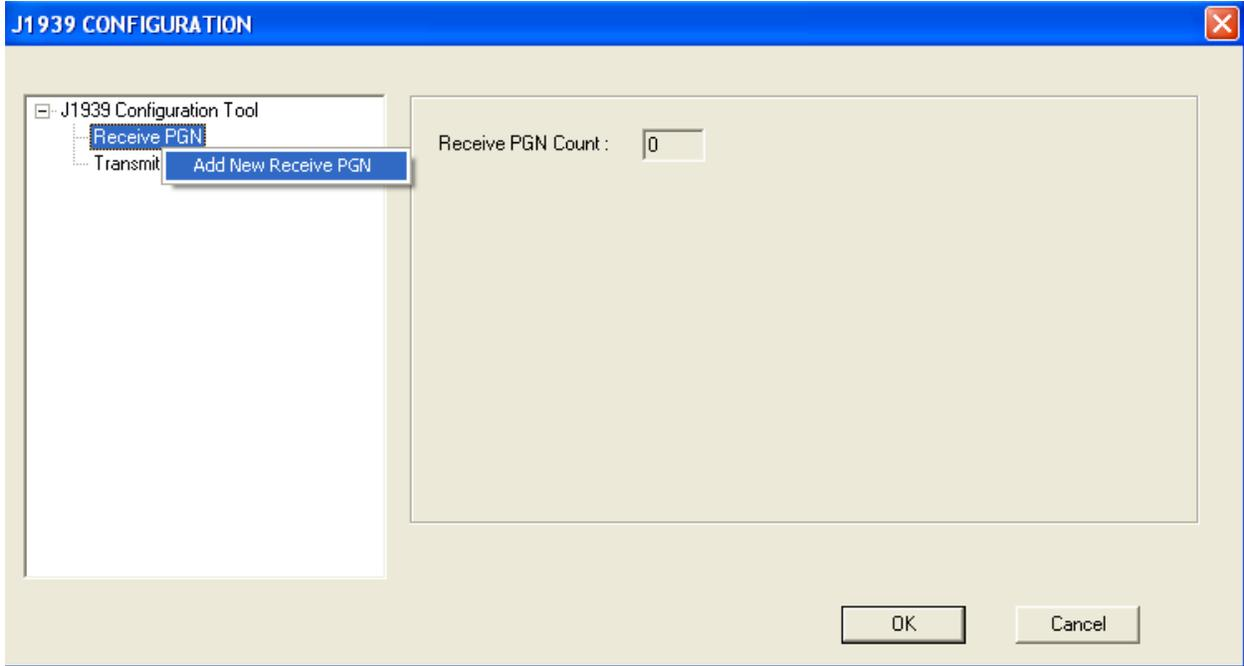

Figure 3.4 – Add New Receive PGN
- To configure Receive PGN, Right click on Receive PGN and select “Add New Receive PGN” as shown in Fig 3.4.